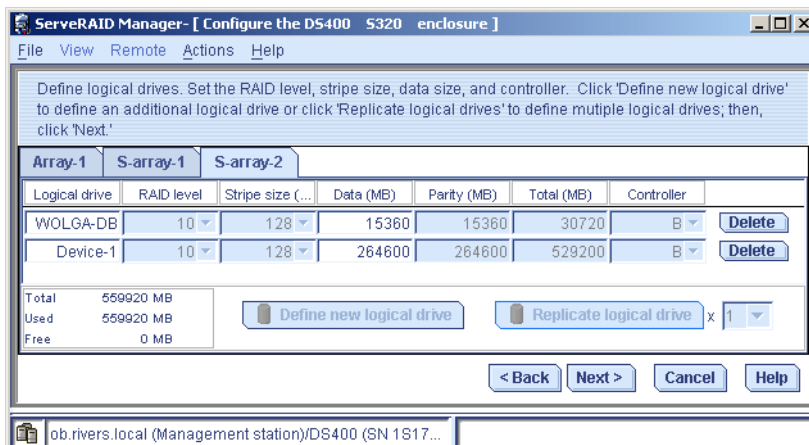

Figure 4-102 New defined logical drive
18. A new logical drive with name Device-1 and the maximum available space is created. Change the logical drive name to WOLGA-LOG and specify a size of 11GB. See Figure 4-102.